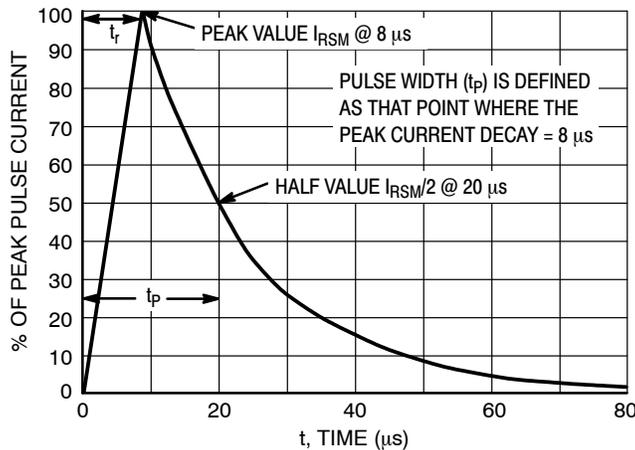

Figure 5. 8 x 20 μs Pulse Waveform
1. Non-repetitive current per Figure 5.
4. Surge current waveform per Figure 5.